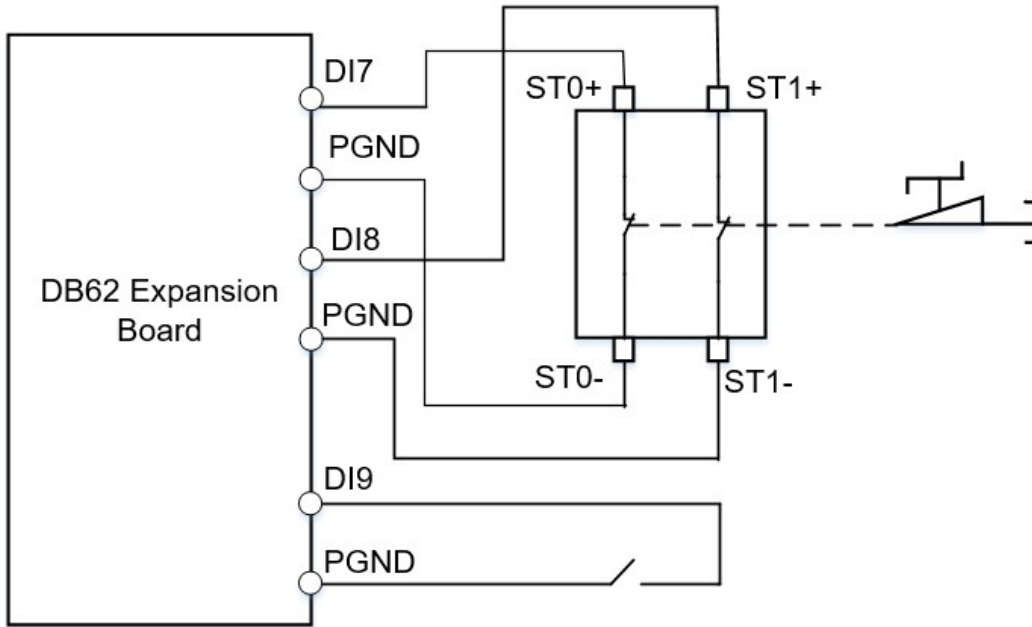

Figure 6.71 Connect DB62 expansion board to the door switch and a normally open switch
- Step 5** Connect the DB62 expansion board to the door switch, and connect DI9 to a normally open switch, as shown in Figure 6.71.